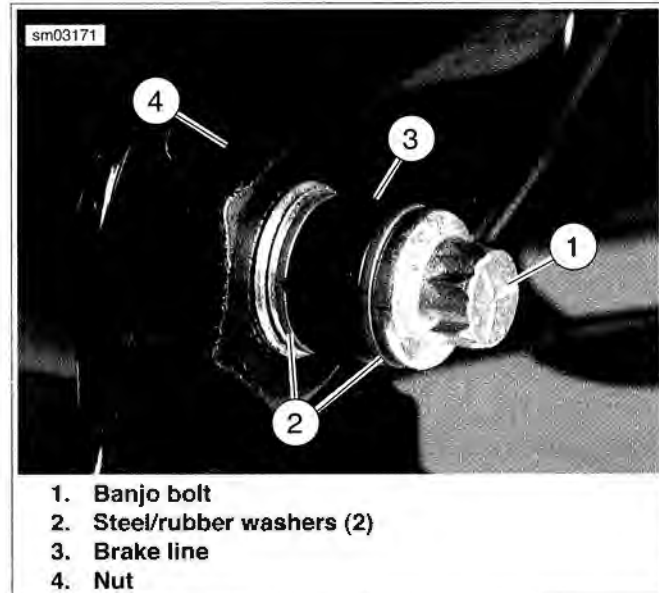

Figure 2-45. Rear Brake Control: Front Mount
1. See Figure 2-45. Remove banjo bolt (1) and two steel/rubber washers (2) to disconnect brake line from master cylinder. Discard washers.
2. Remove nut (4) to free assembly from mounting bracket.
2. Install master cylinder assembly on brake pedal. Install washer (5) and **new** cotter pin (4) on clevis pin (6).
3. See Figure 2-45. Fit collar on cartridge body into hole of mounting bracket. Apply LOCTITE THREADLOCKER 243 (blue) to threads of nut (4). Install nut on cartridge body until finger tight. Tighten to 30-40 ft-lbs (40.7-54.2 Nm).
4. Lubricate **new** steel/rubber washers (2) with D.O.T. 4 BRAKE FLUID. Position new steel/rubber washers on each side of brake line (3). Insert the banjo bolt (1) through washers and fitting. Tighten to 17-22 ft-lbs (23-30 Nm).